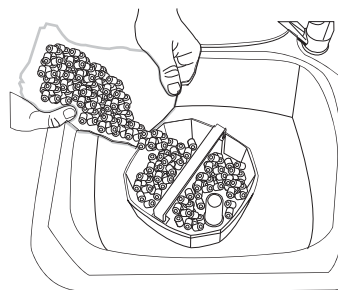

Fig 4
6. Follow the filter media setup instructions on the previous page which apply to your filter. Remember to remove all media from the plastic bags and rinse in tap water to remove excess dust. The simplest way to do this is empty the correct media into its basket and run tap water through it. Rinse the inside of the canister body in tap water. DO NOT USE ANY SOAPS OR DETERGENTS. Fig 4
12. Pull the hose from the inlet side of the filter up next to the inlet U pipe and line up. Fig 4
15. Clean the impeller chamber and the outlet channel using a double ended pipe brush. Fig 4
18. Put the impeller back together and ensure that it rotates freely on the shaft. Then reassemble the head unit, ensure there is no water on the power cord, plug the head unit in and turn on. Make certain the impeller is spinning. Turn it off. Reassemble the filter unit. Apply an aquarium safe lubricant to the O-ring on the head unit. This will provide a better water seal and make the removal of the head easier next time the filter has to be disassembled for maintenance. Fig 4